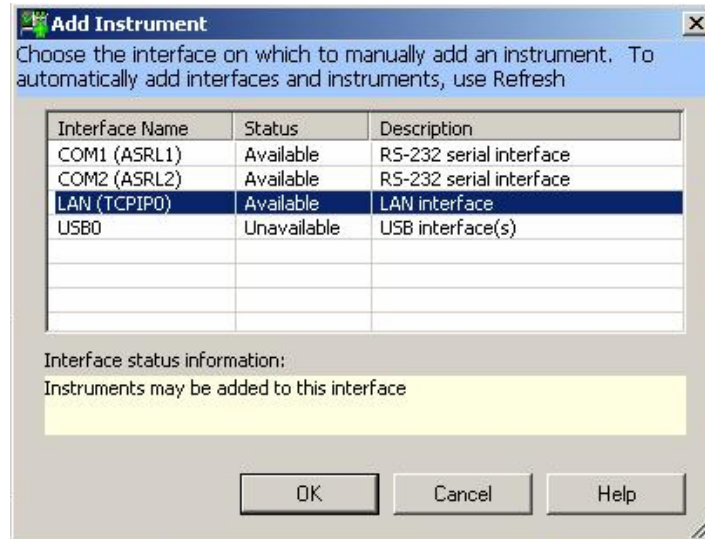

FIGURE 2-2: ADD INSTRUMENT DIALOGUE BOX
- 4) Select the **LAN (TCPIP0)** instrument interface and then click on the **OK** button (see Figure 2-2).